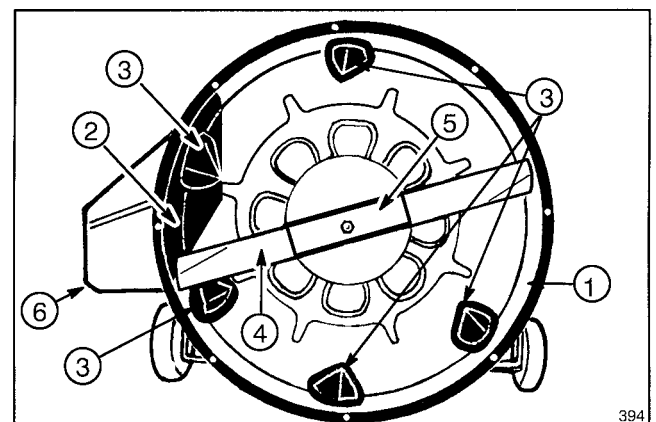

Figure 11
To side discharge or use bagging attachment, stop engine and wait for all moving parts to stop. Then remove the wingnut securing the discharge cover (Fig. 11) to the mower housing. **NEVER REMOVE THE GRASS DEFLECTOR FROM THE MOWER HOUSING (Fig. 11).** Save the discharge cover and wingnut for possible future reinstallation.
**NEVER** remove the grass deflector (Fig. 11) from the mower housing. If the discharge cover under the grass deflector is removed in order to side discharge or bag, the grass deflector routes discharged material down toward the turf. If the deflector is ever damaged, replace it. Without the deflector or complete grass catcher assembly mounted in place, discharged material could cause personal injury or blade contact could occur.
The rider is equipped with special parts (Fig. 11) which increase your rider's ability to cut and recut grass clippings, leaves, and other yard debris into tiny particles which are injected down into the grass. These parts are:
**Never remove the grass deflector (Fig. 11) from the mower housing. If the discharge cover under the grass deflector is removed in order to side discharge or bag, the grass deflector routes discharged material down toward the turf. If the deflector is ever damaged, replace it. Without the deflector or complete grass catcher assembly mounted in place, discharged material could cause personal injury or blade contact could occur.**